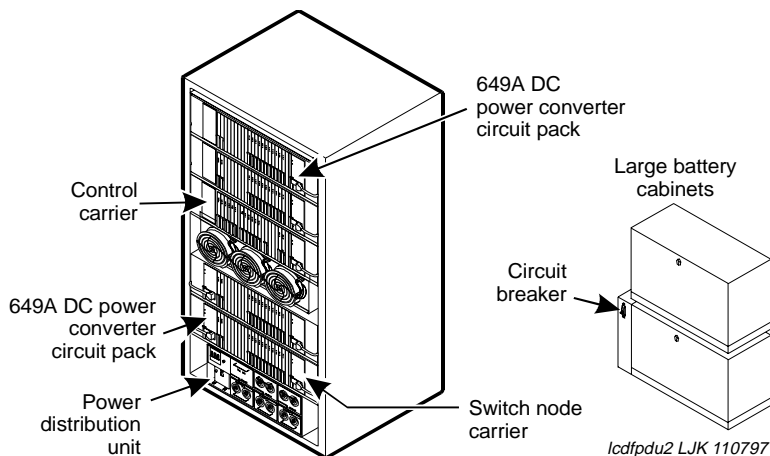

Figure 29. DC Power Distribution in Multicarrier Cabinets
Figure 29 shows the DC-power distribution in some Multi-Carrier Cabinets with extended battery backup (large batteries). In R7r and later systems, the power distribution cables are on the right side of the cabinet only. This is because the 649A DC power converter circuit pack replaces 2 power converters at either end of each carrier. Switch node (SN) carriers require two 649As and two cables.